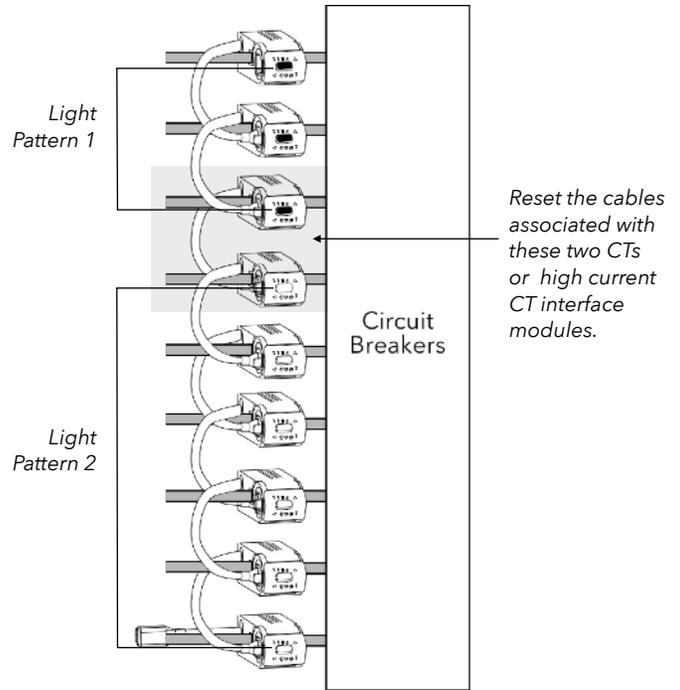

Fig 28
4. A broken, unplugged, or poorly seated CT or high current CT interface modules cable will cause a difference in the flashing light patterns on the broken sensor chain. The point at which the light pattern differs indicates the area of the chain break. **Fig 28** shows an example of these differing light patterns. The possible light patterns displayed by the CT/ high current CT interface modules are: On, Off, or Blinking.